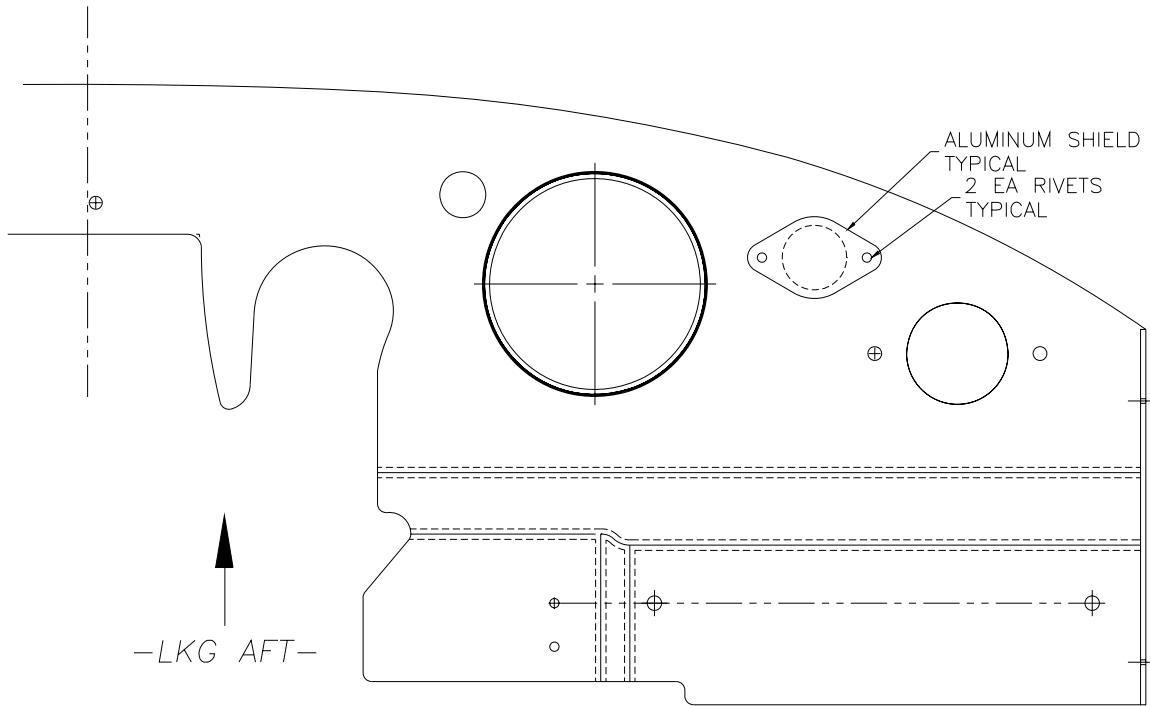

Figure 2 – Plug Mixture Cable Hole in Aft Baffle
- 10.4.11** Fabricate aluminum blanking plate and plug transducer hole on the left side of the aft baffle as shown in Figure 2.